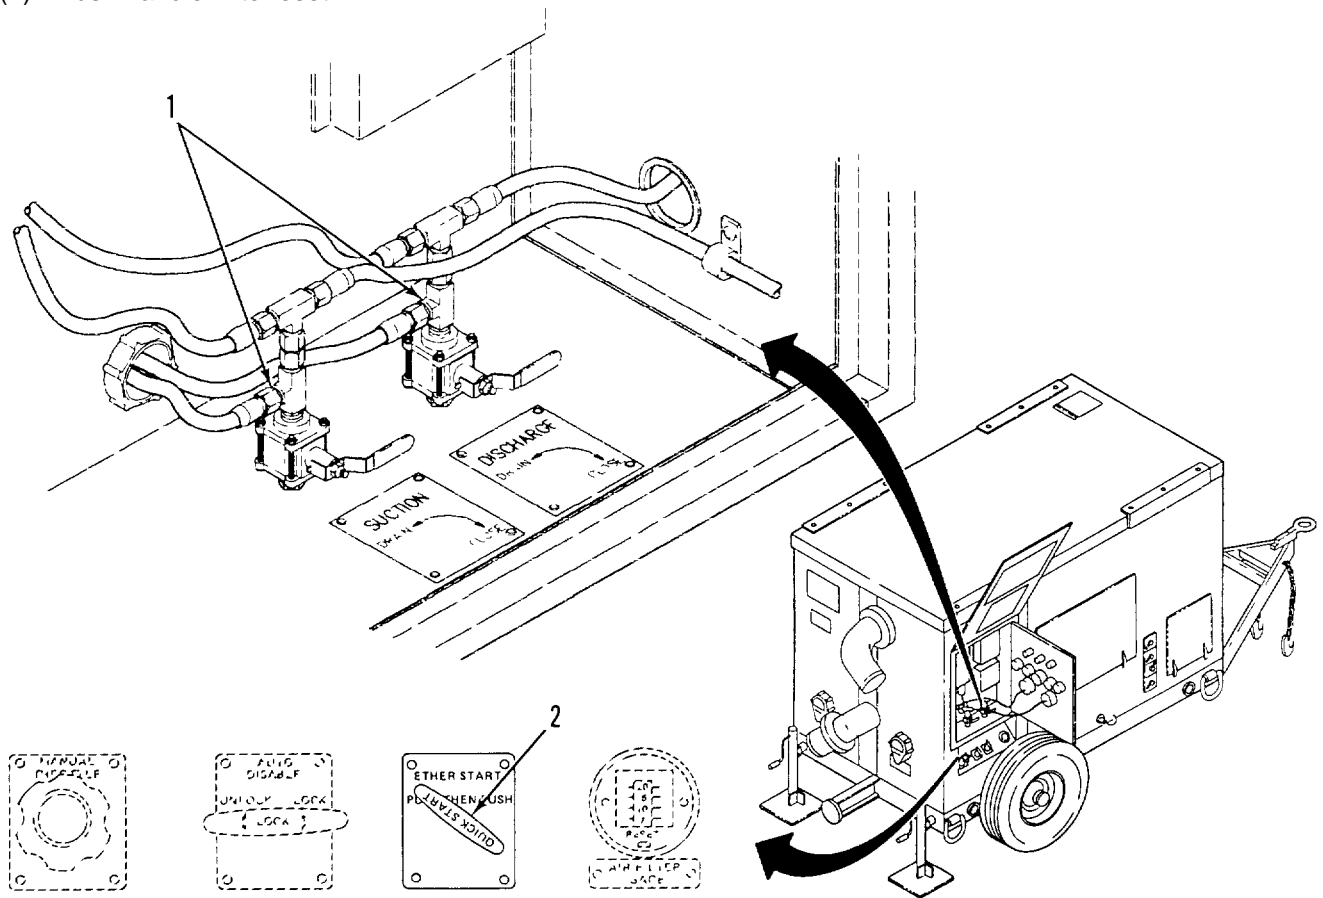

Figure 2-10. Cold Climate Operations
a. Cold Climates. If freezing conditions exist (below 32°F) water in lines will freeze. If during extreme cold conditions pumping assembly is shut down, open pump drain plug and allow pump to drain. Open drain valves (1, Figure 2-10) in control panel. For operation of equipment in cold temperatures, the choice of viscosity grade lubricating oil is specified in LO 10-4320-315-12. Use ether start as cold start aid as follows (Figure 2-10).
- (1) Pull ETHER START handle (2, Figure 2-10) to inject one shot of ether into engine air cleaner line.
- (2) Push handle in to reset.